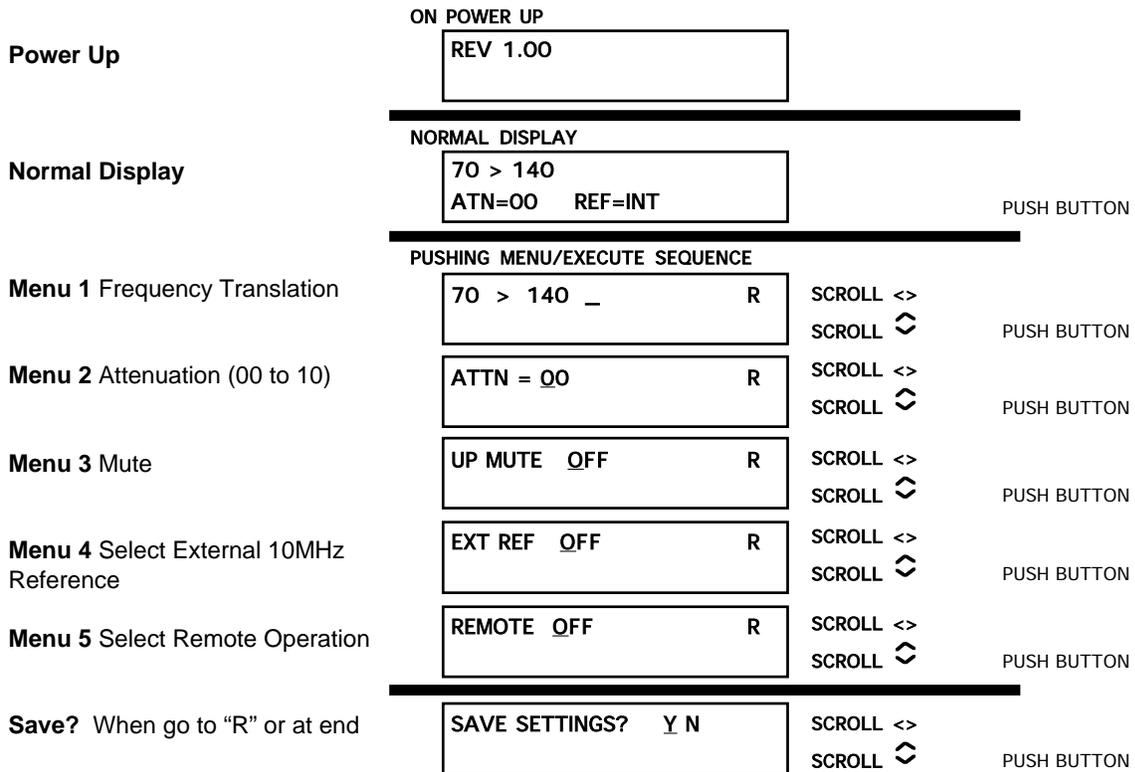

FIGURE 2.4 Menu Display and Sequences
2.5.1 Functions - This section describes operation of the front panel controls. There are three operator switches, the LCD display and alarm indicator LEDs. All functions for the equipment are controlled by these components. The functions are (see Figure 2.4):
1. Operate the Menu/Execute switch until you get to the menu item you want to change (see Figure 2.4 for the sequence of menu options). The following display is for changing the frequency translation:
Figure 2.4 shows all the menu items and how to make changes.
Figure 2.4 gives the menu items and how to make changes